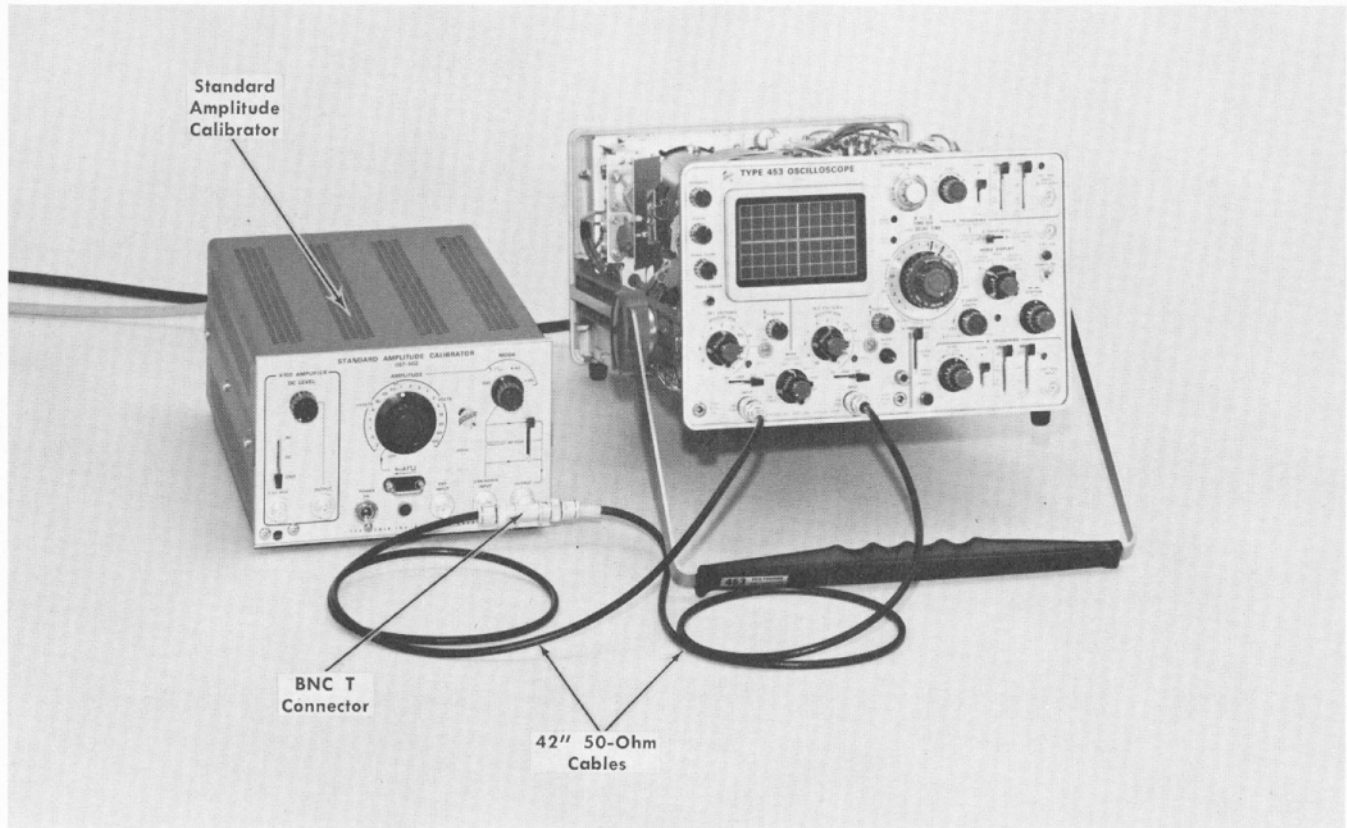

Fig. 6-20. Initial test equipment setup for steps 14 through 20.
14. Adjust Channel 1 and 2 Gain ①
a. Test equipment setup is shown in Fig. 6-20.